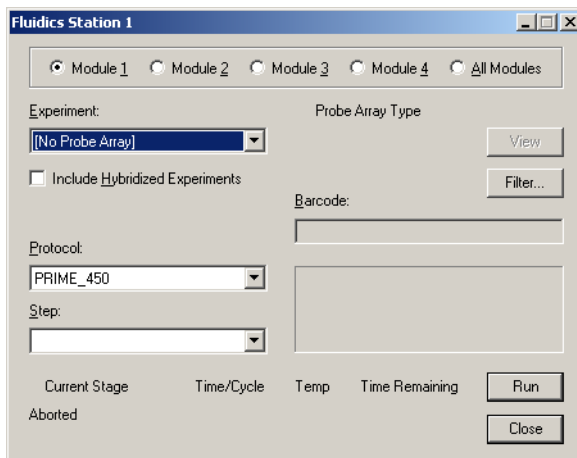

Figure 2.3
4. In the **Fluidics Station** dialog box, click **Protocol**, and then choose **Prime_450** for each module under the **Protocol** drop-down list (Figure 2.3). Click the Run button for each module to be primed.